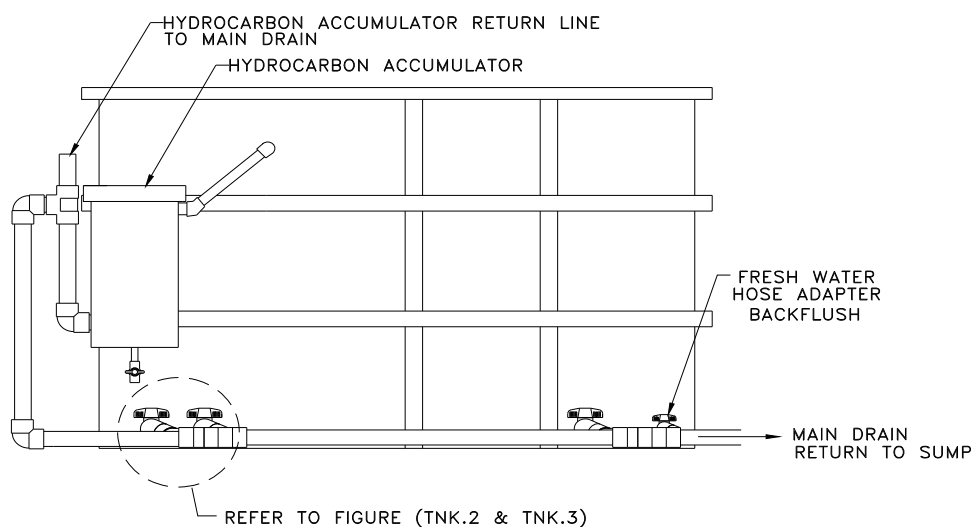

Figure TNK.4
- C. Plumb the **ACCUMULATOR OUTLET ASSEMBLY** to the **MAIN DRAIN RETURN LINE** (Fig TNK.4). Ensure that the top of the Accumulator outlet piping is even with the bottom of the Accumulator inlet piping. Supplied pipe sections should allow for this.